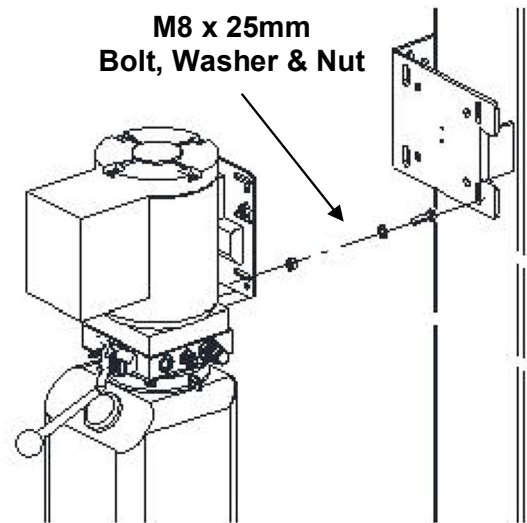

Fig. 21
- 1) Carefully remove Power Unit from the package and mount to the Main Side Post bracket using **M8 x 25mm Bolts, Washers & Hex Nuts**, keeping the left side slightly loose to mount Control Bracket, **Fig. 21**.